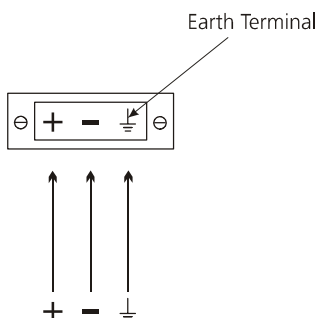

Figure 4-8 Separate Earth
- 2 For installations with a separate earth, connect the earth cable to the earth terminal (see Figure 4-8).